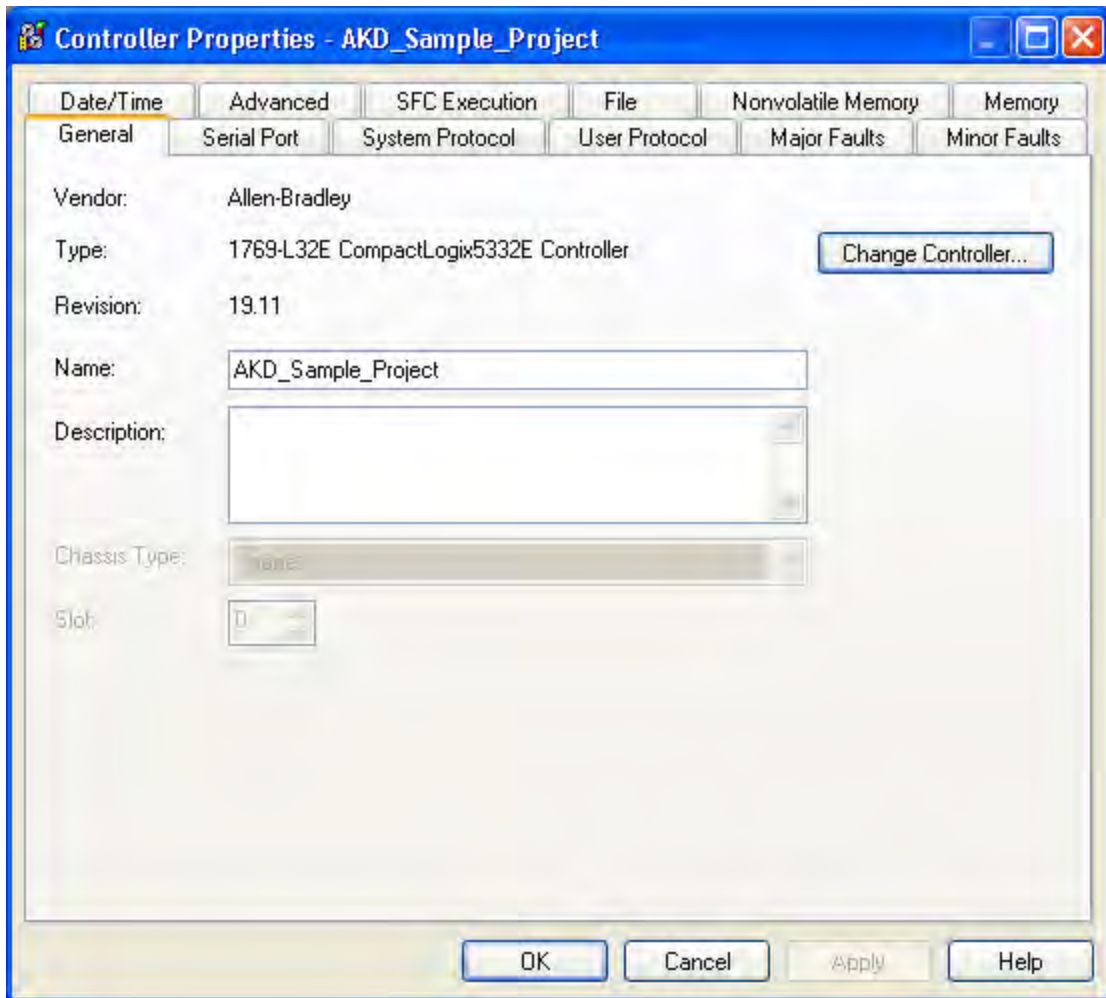

Figure 3-2: Controller Properties
3. Update any controller properties in order for the controller to match your specific hardware setup, most notably any communication settings and/or the controller type, and then close the controller properties window (Figure 3-2: Controller Properties).